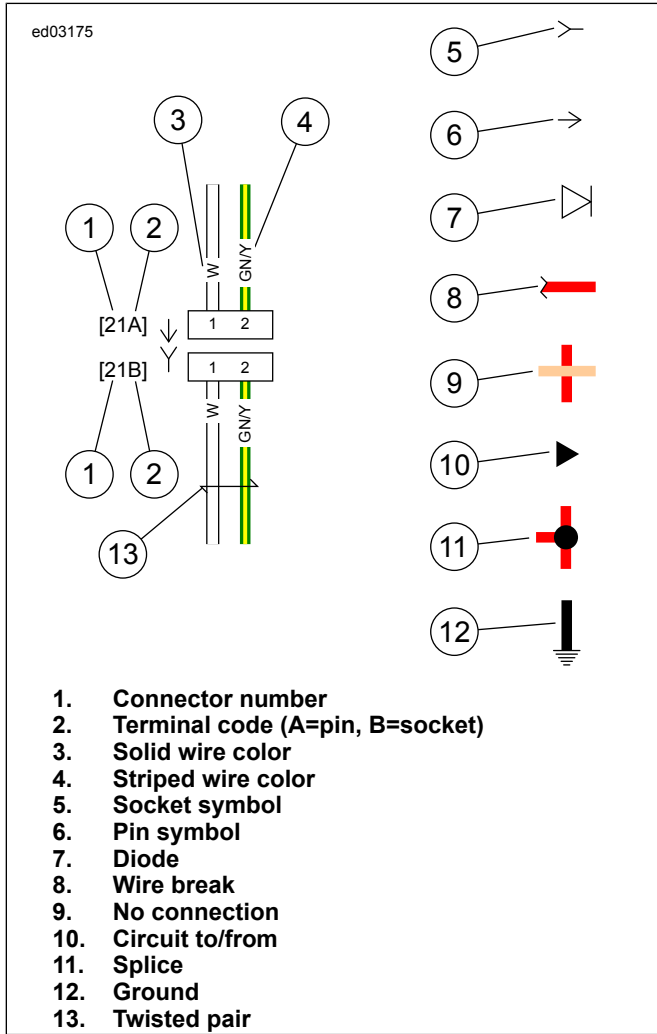

Figure 6. Connector/Wiring Diagram Symbols
**For Solid Color Wires:** See Connector/Wiring Diagram Symbols ( Figure 6 ). The alpha code identifies wire color.
See Connector/Wiring Diagram Symbols ( Figure 6 ). Brackets [ ] indicate connector numbers. The letter inside the brackets identifies whether the housing is a socket or pin housing.